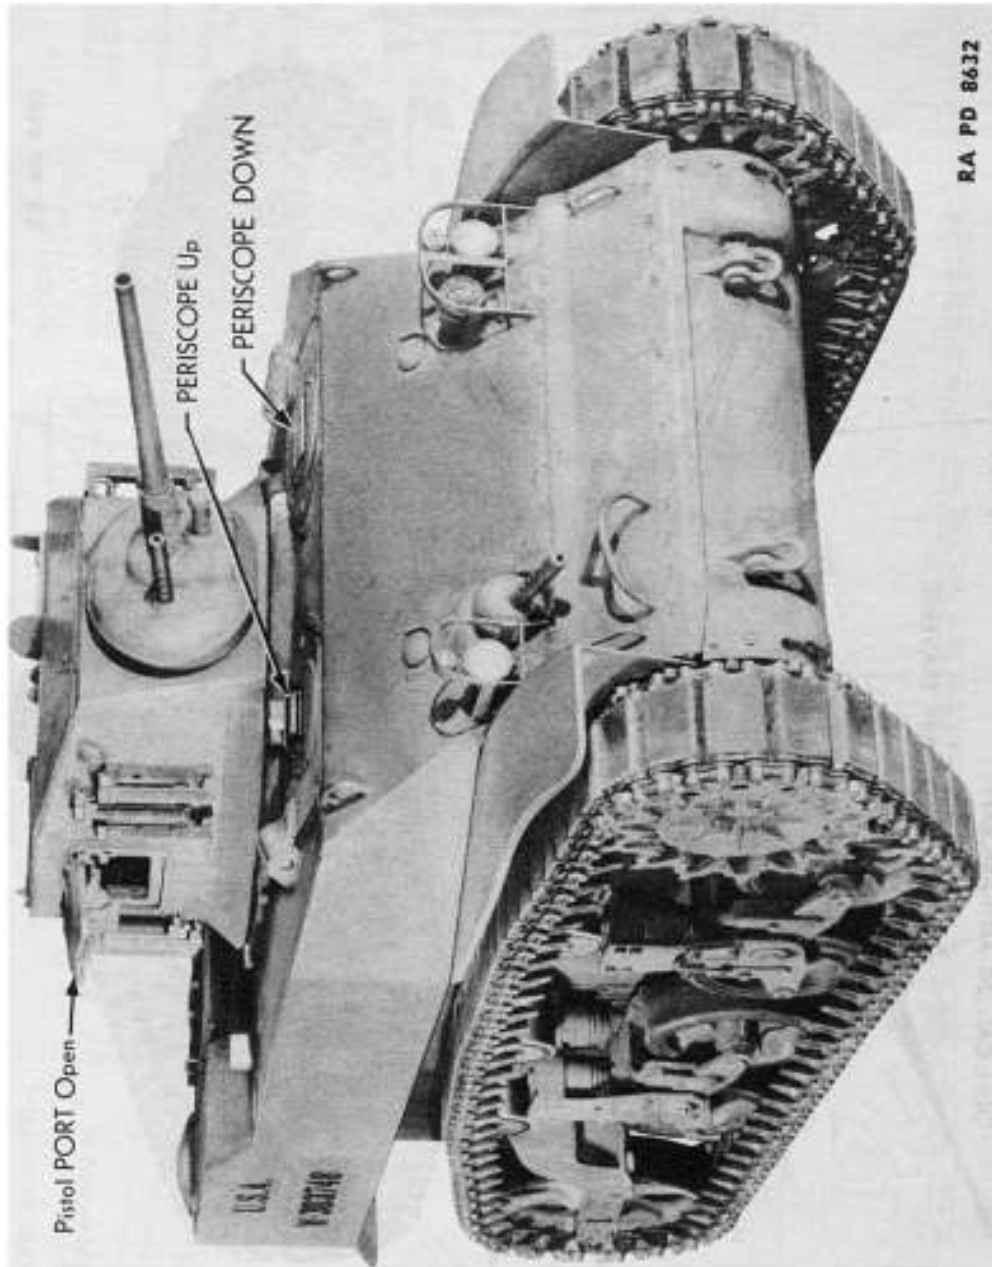

Figure 1 — Light Tank M5 — Right Front View
a. The Light Tank M5 (fig. 1) is an armored, full-tracklaying combat vehicle carrying a crew of 4 men. It is powered by 2 liquid-cooled, 90-degree, V-type, 8-cylinder Cadillac engines located in the engine compartment in the rear of the hull. Power is transmitted to the final drives and tracks through 2 Hydra-Matic transmissions, 2 propeller shafts, a 2-speed, step-down transfer unit, and the controlled differential (fig. 3). This same description applies to the Light Tank M5A1.